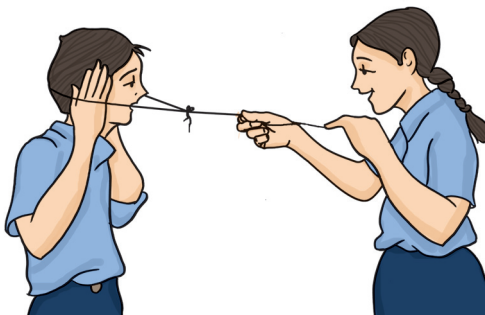

Fig. 5.19
4. Take a long thread. Place your hands over your ears and get some one to place this thread round your head and hands. Ask her to make the thread taut and hold its ends in one hand. Now ask her to draw her finger and thumb tightly along the thread (Fig. 5.19). Can you hear a rolling sound like that of a thunder? Now repeat the activity while another friend stands near both of you. Can he hear any sound?